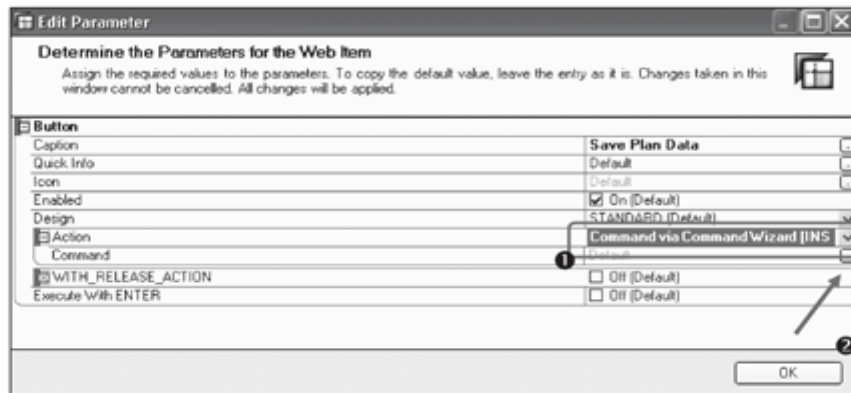

Figure 12.94 Define Button Parameters
8. Define the new button by maintaining the display caption and other button parameters, as shown in Figure 12.94. The most important part of button config-
uration is to assign an action to the button. This can be done using the commands from the Command Wizard available in the web application designer. Select Command via Command Wizard as the action for the button (❶), and then click on the button shown in ❷ of Figure 12.94 to define the command settings.